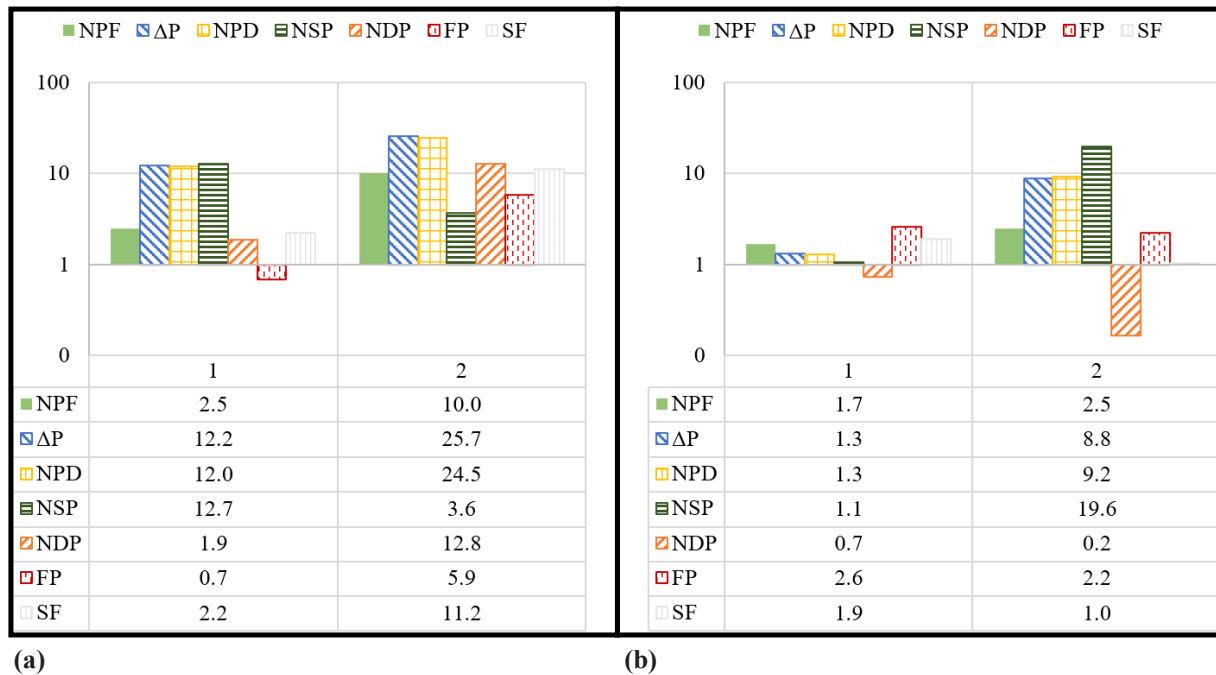

Figure 6: APD of operational performance parameters analyzed for the (a) first stage and (b) second stage.
The listed operational performance parameters were monitored throughout the study: feed pressure (FP), normalized permeate flow (NPF), normalized salt passage (NSP), specific flux (SF), net driving pressure (NDP), normalized  $\Delta P$  (NPD), and  $\Delta P$ . Figure 6 shows that the absolute percent difference (APD) of the examined parameters were less than 10% for the pretreatment configuration in which the CF was downstream of the blend (Phase 1); thus, it was found that the RO membranes were capable of producing permeate without increasing pressures under this pretreatment configuration. A more significant performance decline, mainly in the first stage, was found when the CF was moved to the individual NF concentrate and BGW streams (Phase 2). The performance decline in Phase 2 was attributed to a combination of organic and biological fouling as well as from FeS or FeS2 formation as supported by the CF and filter pad autopsy findings. The operational performance results highlighted the importance of the 5-micron CF downstream of the blend.